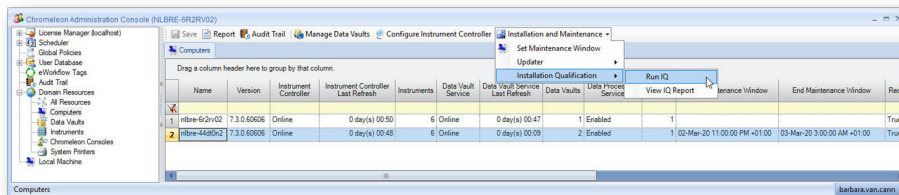

Figure 14. IQ available on remote devices
It is also possible to run and manage Install Qualification (IQ) on remote devices and view the associated reports from the Administration Console (Figure 14). This can save significant time and reduces the need of having to be at every Chromeleon Station.